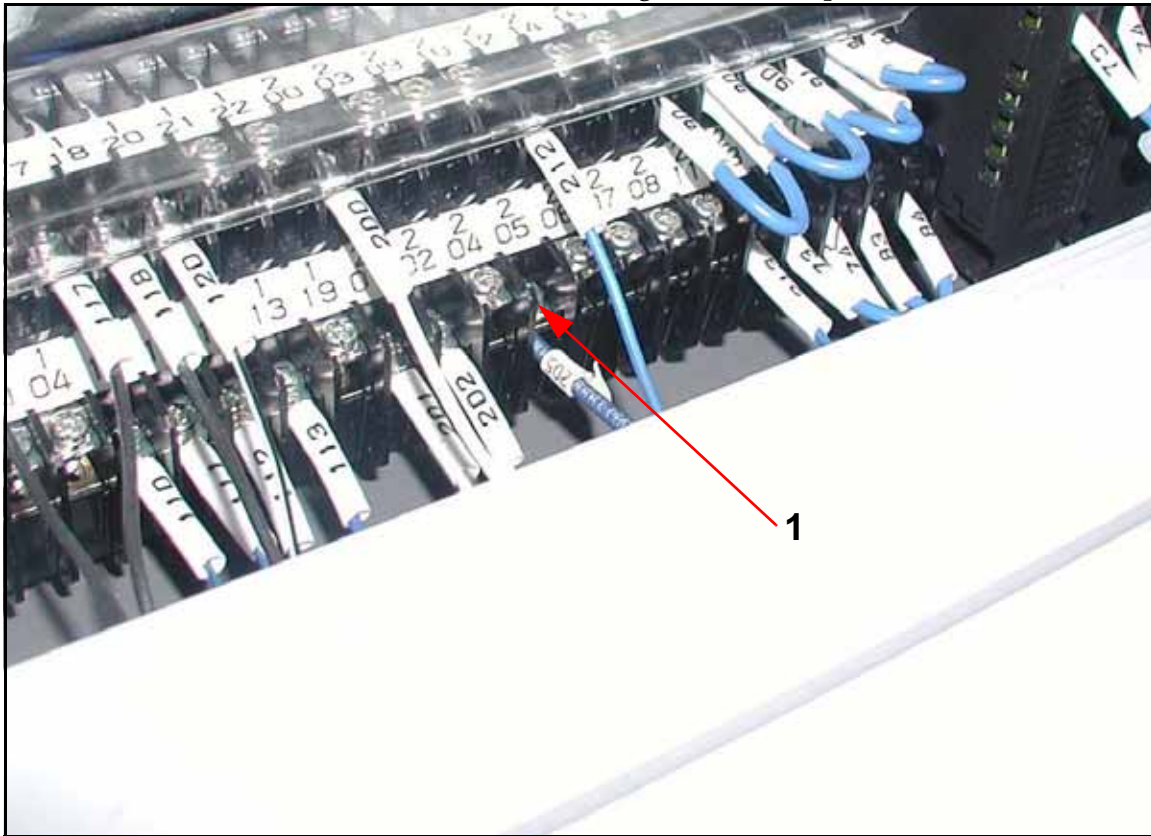

Figure 4-20. Wire Connection
- 7 Connect blue wire (1 in Figure 4-20) from conduit to terminal 205. It does not matter which wire goes in which position.